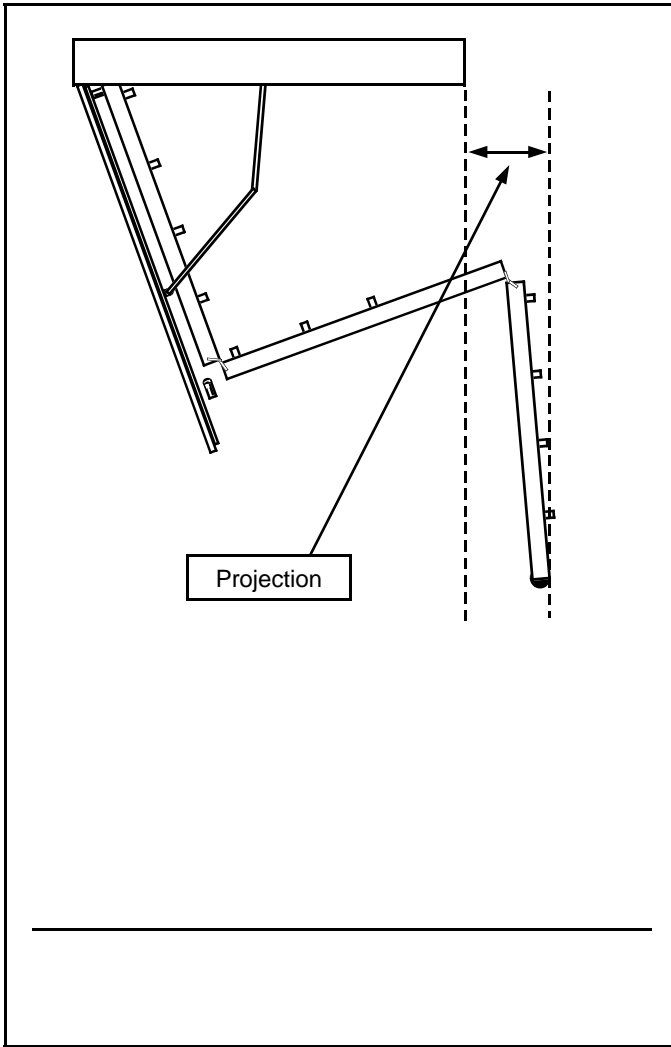

Figure 1
2. Determine whether the chosen location allows sufficient "projection" and "landing space" for your unit. See TABLE A below and Figure 1 & 2 on next page.